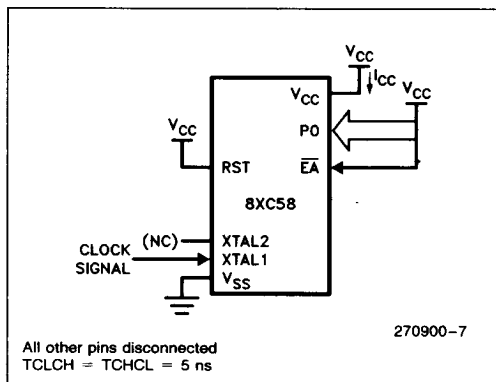

Figure 6. I_{CC} Test Condition, Active Mode
3. See Figures 6–9 for test conditions. Minimum V_{CC} for Power Down is 2V.